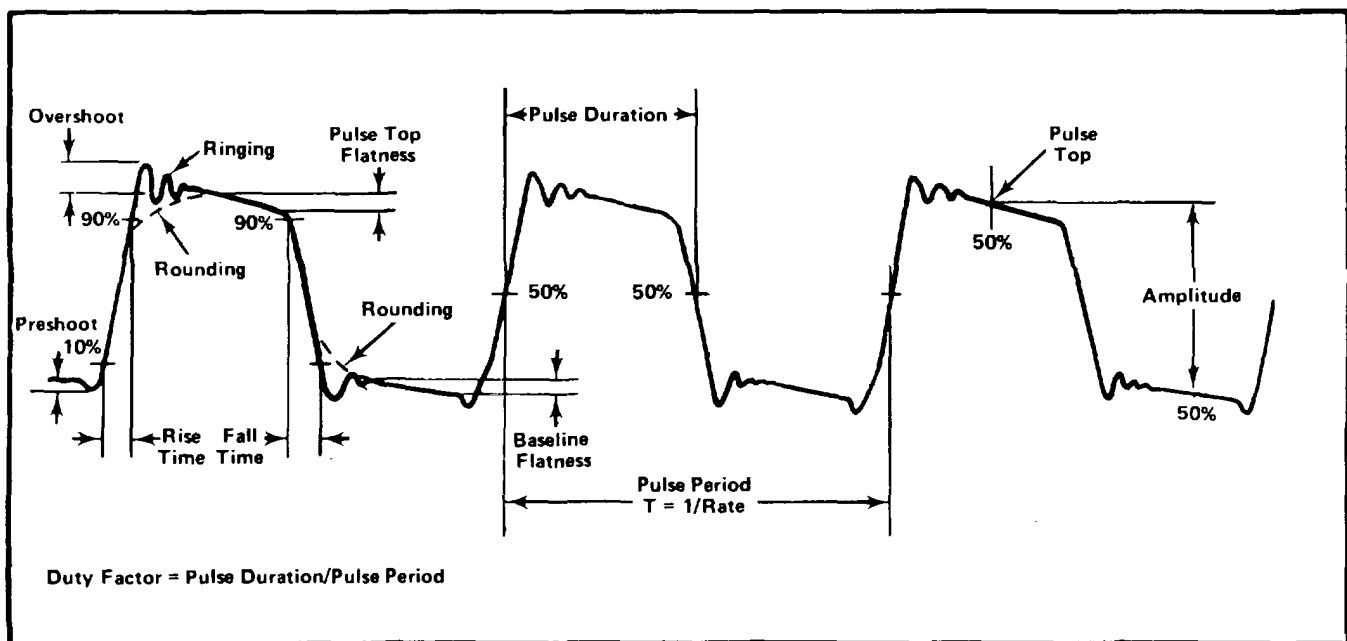

Fig. 1-8. Pulse characteristics.
**Definitions of Pulse Characteristics** The following is a glossary of common pulse characteristics used in this manual. They are illustrated in Fig. 1-8.